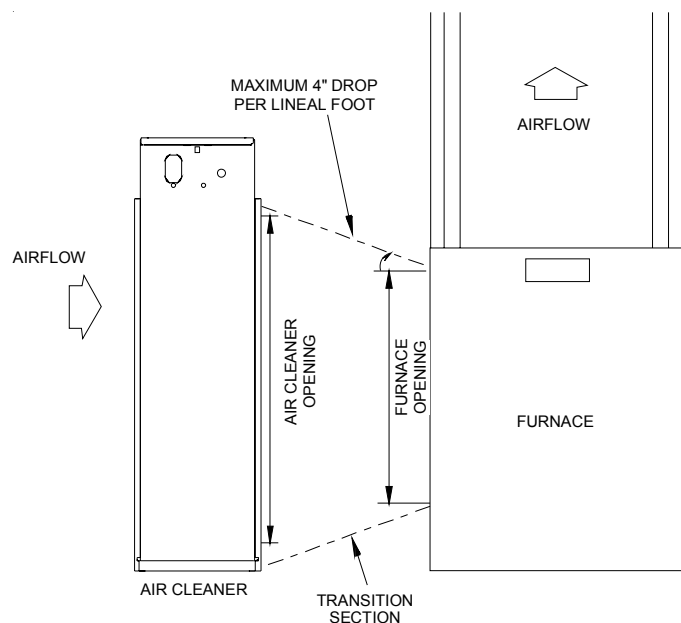
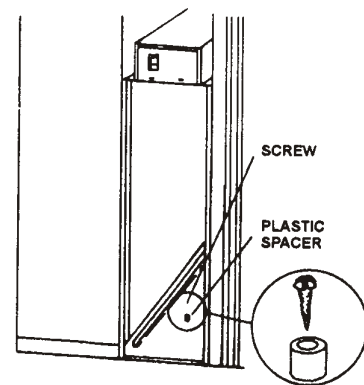

Figure 2
Figure 11
If the air duct does not fit the air cleaner cabinet opening, gradual transitions are recommended to reduce air turbulence through the air cleaner and maximize efficiency. Not more than 20° (about 4" per running foot) of expansion should be used on each side of the transition fitting (see Figure 2).
1. Remove the pre-filter and cells from the cabinet. A plastic positioning spacer is located inside the bottom of the cabinet (Figure 11) to allow installation of the cells in the proper position with respect to airflow.
4. Locate the cabinet in the cold air return duct so that all of the return air flows through the unit (Figure 11). If the furnace and air cleaner openings are different, use a transition refer to page 4, Figure 2.